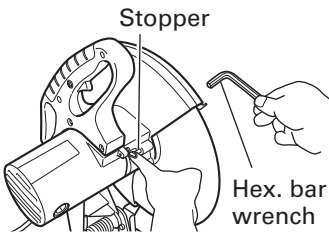

Fig. 12
1. Dismounting the Cut-Off Wheel (Fig. 12).